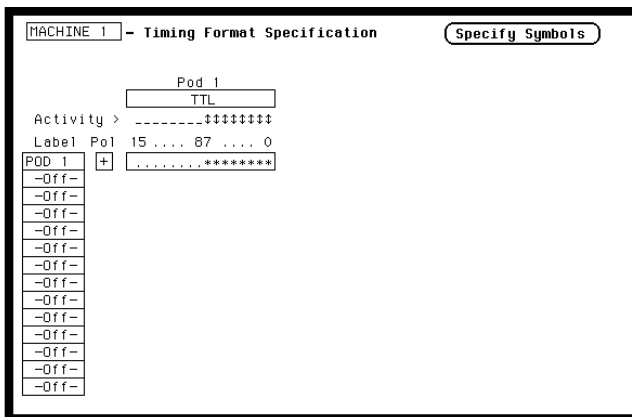

Figure 3-32. Glitch Test Timing Format Specification
- In **State Format Specification** assign the lower eight bits of the pod under test to a label as shown in figure 3-32. Make sure the appropriate eight bits in the bit assignment field are turned on.